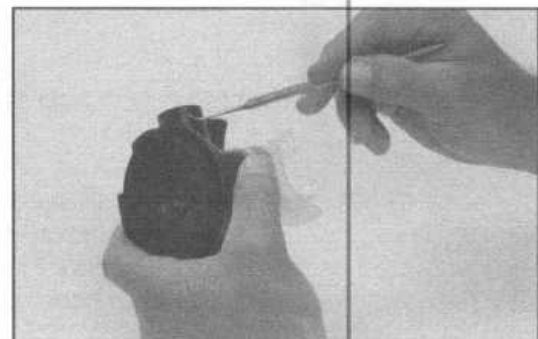

FIG 6-8
22. Inspect the overall condition of the regulator case (27) to ensure it is free of any stress cracks, distortion, chemical attack or discoloration. Examine the inlet tube valve port very closely looking for any sign of cracks or breakage. Refer to figure 6-8.